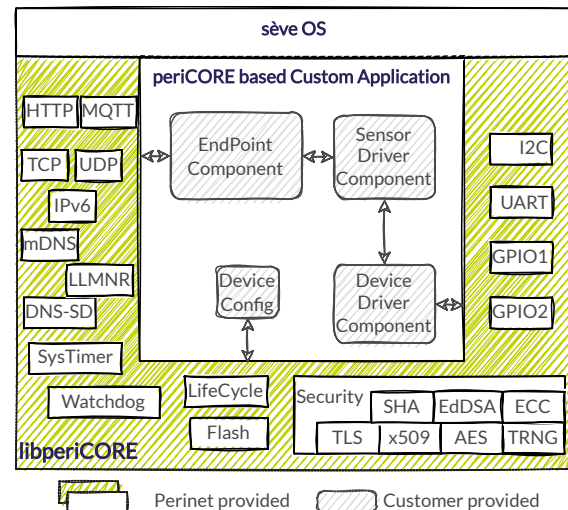

Figure 4: The software architecture with Custom Application template, provided by Perinet.
- Rapid firmware development with *periCORE Development Kit* (see Figure 4)